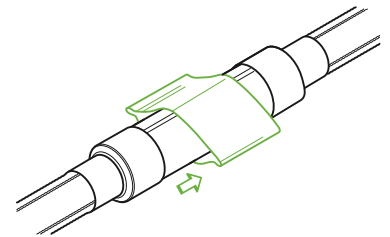

Fig. B12.2.16
16. Position the heat shrink band directly over the prepared section of pipe around the plug (Fig. B12.2.16). Remove the protective foil from the inner surface of the heat shrink band.